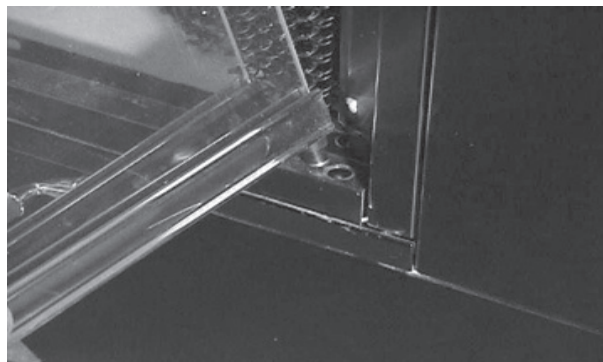

Figure 6 - Bottom Pin/Door Track
- Fold up one door (handles at the bottom) and set the bottom pin into the hole in the bottom door track. See Figure 6.